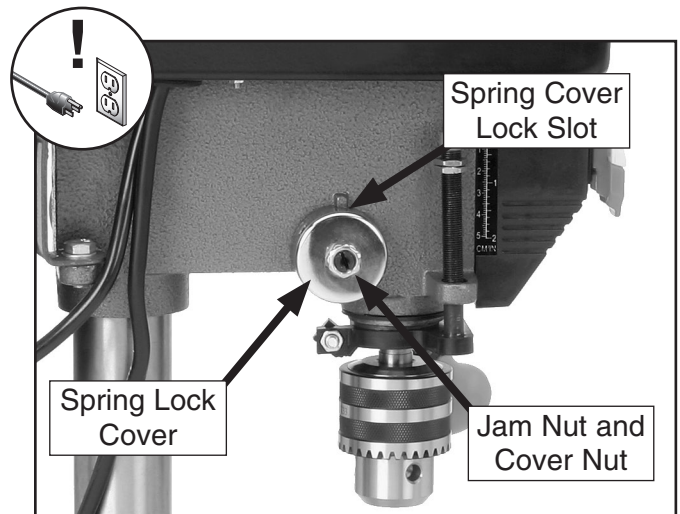

Figure 24. Feed shaft return spring assembly.
2. Wipe off any oil on the spring lock cover so it does not slip in your fingers when you hold the cover from spinning (see **Figure 24**).